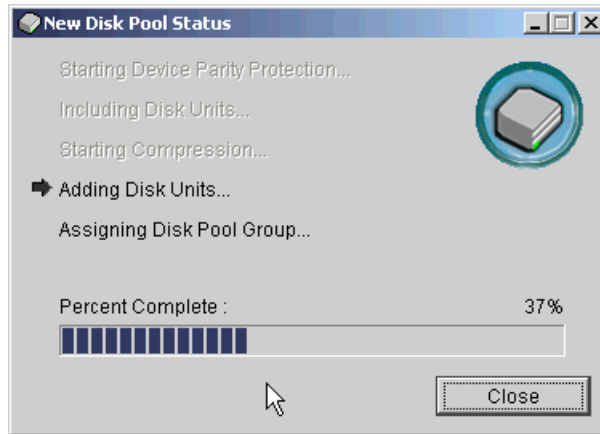

Figure B-18 New Disk Pool Status
- Take note of and respond to any message dialogs which appear. After taking action on any messages, the New Disk Pool Status panel shown in Figure B-18 on page 341 will appear showing progress. This step may take some time, depending on the number and size of the logical units being added.